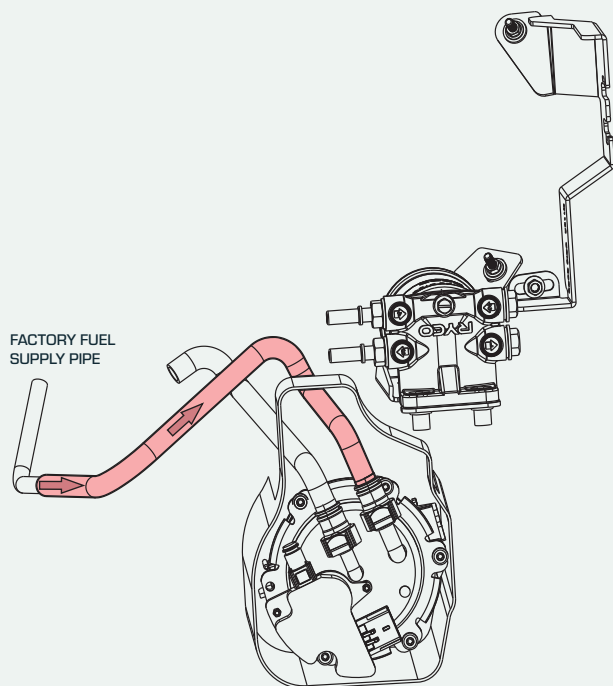

FIGURE 5
- 3 Mount Z980K16 assembly onto the metal bracket using the two (2) black M10 bolts supplied with the Z980K16.
- 4 Locate the factory fuel supply line by starting at the factory fuel filter. Locate the inlet straight red connector (see Figure 5), pull up the locking tab, then press the release button and pull back to remove. Have a rag ready to capture any diesel that may spill out of the fuel line and the fuel filter.